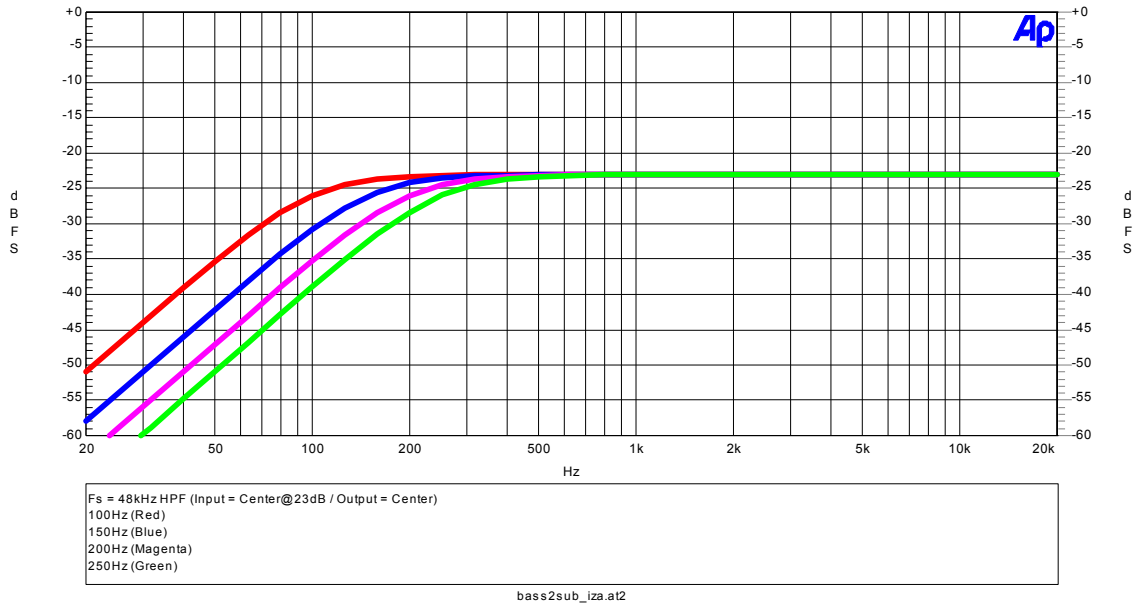

Fig. 6 NJU26106 High Pass Filter
2. The 4 types of crossover frequencies for speaker are selectable. (Fig. 6, 7)